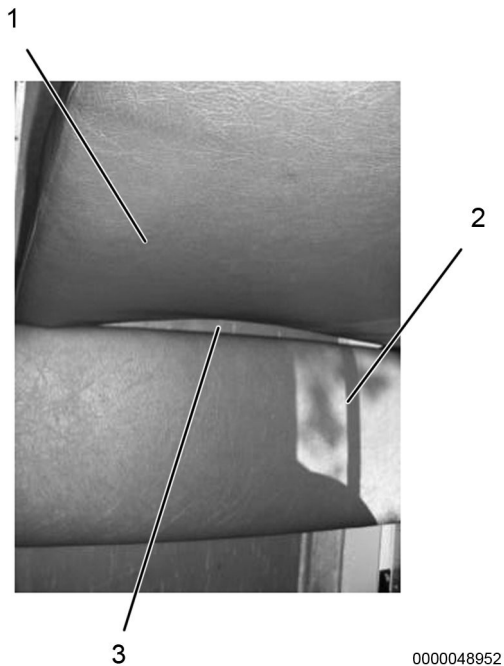

Figure 1. Bow in Seat Back.
3. Visually inspect passenger seat back (Figure 1, Item 1) for bowing (Figure 1, Item 3) between seat back and seat cushion (Figure 1, Item 2).
4. Inspect seat back (Figure 1, Item 1) by rapping on top face of seat back with a hand or fist to listen for a rattle in back pan.
5. Unlatch and lift seat cushion (Figure 1, Item 2) of each seat back (Figure 1, Item 1) suspected of needing repair.
7. Install and latch seat cushion (Figure 1, Item 2) of each seat back (Figure 1, Item 1) needing repair and place upholstery and foam assembly on floor in front of seat.
13. Unlatch and lift seat cushion (Figure 1, Item 2) of each seat back (Figure 1, Item 1) repaired.
16. Install and latch seat cushion (Figure 1, Item 2) of each seat back (Figure 1, Item 1) repaired.